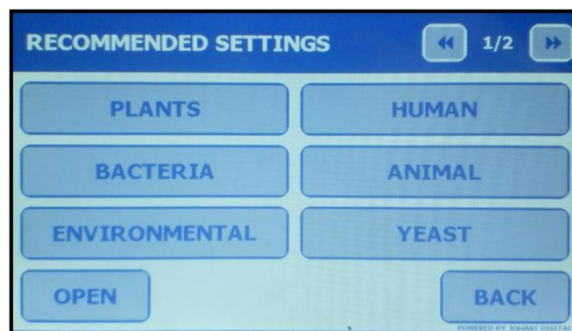

Figure V-2: Recommended Programs, page 1 of 2
3. Press the appropriate category for the sample type (i.e., plants, bacteria, environmental, human/animal, yeast & fungi, or feces) \(Figure V-2\).